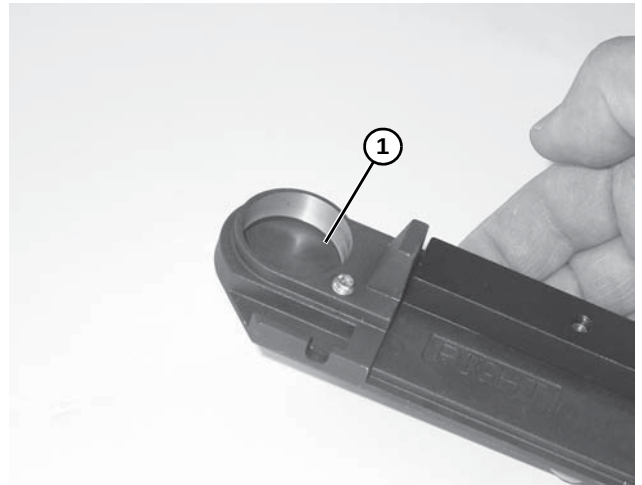

Figure 53
1. Inspect the head plates bearing seating surface (**Figure 53, item 1**). If they are worn or damaged, replace the head. See "Service Parts" on page 24.